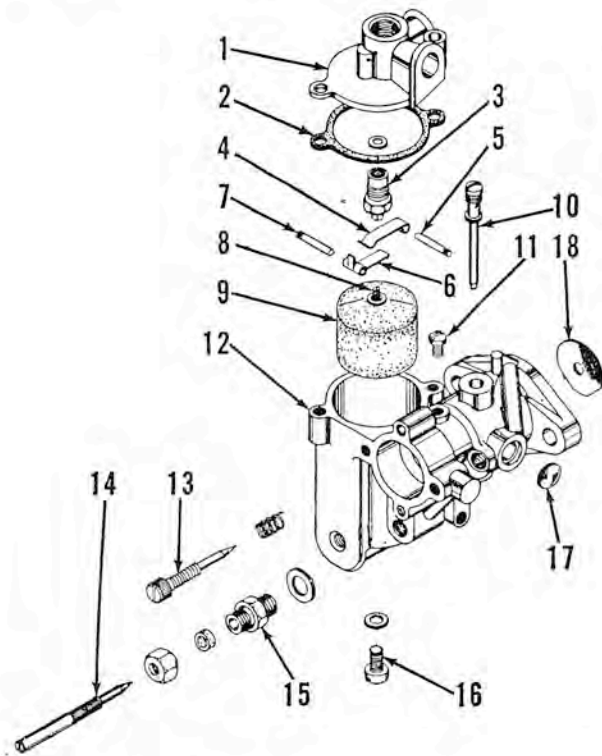

Fig. M1 — Exploded view of Tillotson carburetor of the type used on all models.
CARBURETOR. Tillotson, AJ series, float fed carburetors are used. Refer to Fig. M1. Initial setting is one turn open from closed position for the idle needle (13), and 1½ turns open for the high speed needle (14). Run motor until operating temperature is reached, then shift to forward gear and open the throttle. Slowly turn high speed needle (14) clockwise until motor falters or slows because of a too lean mixture; then back needle out approximately ½-turn. After high speed needle has been properly adjusted, regulate the idle needle until engine runs smoothly under load at slow speed. Turning idle needle clockwise will lean the mixture.